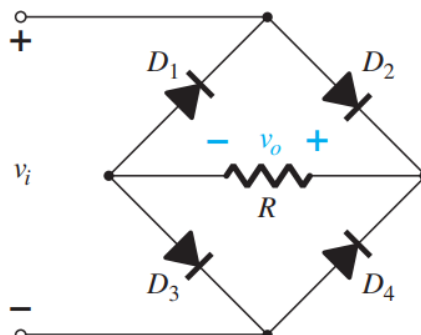
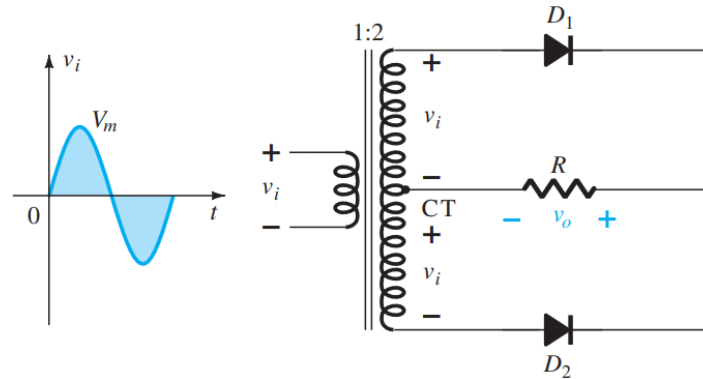

Figure 3: Full-wave bridge rectifier.
Figure 6: Center-tapped transformer full-wave rectifier.
The DC level obtained from a sinusoidal input can be improved by 100% using a process called full-wave rectification. The bridge rectifier is a circuit that converts an AC voltage to a DC voltage using both half cycles of the input AC voltage. The most familiar network for performing such a function is a bridge rectifier as shown in Fig. 3 with its four diodes in a bridge configuration. The AC input voltage is applied to the diagonally opposite ends of the bridge. The load resistance is connected between the other two ends of the bridge.
During the period $t = 0$ to $T/2$, that is, in the positive half-cycle, the polarity of the input is shown in Fig. 4. The resulting polarities across the ideal diodes are also shown in Fig. 4 to reveal that D_2 and D_3 are conducting, whereas D_1 and D_4 are in the “off” state. The net result is the configuration of Fig. 4, with its indicated current and polarity across the load resistance, R . Since the diodes are ideal, the load voltage is $v_o = v_i$, as shown in the same figure. The bridge rectifier circuit is shown in Fig. 3.
Over one full cycle, the input and output voltages will appear as shown in Fig. 6. The average value of the full-wave rectified voltage signal over a full period (T) is given by
A second popular full-wave rectifier is a center-tapped rectifier. It is a type of full-wave rectifier that uses two diodes connected to the secondary of a center-tapped transformer, as shown in Fig. 6. The input voltage is coupled through the transformer to the center-tapped secondary. Half of the total secondary voltage appears between the center tap and each end of the secondary winding as shown in Fig. 6 with only two diodes but requiring a center-tapped (CT) transformer to establish the input signal across each section of the secondary of the transformer.
12. Connect the circuit as shown in Figures 3 and 6 without any capacitors. Then repeat steps 3-11, but record data in Tables 2 and 3, respectively.
Table 2 Data Table for the Circuit of Figure 3
Table 3 Data Table for the Circuit of Figure 6
5. Why circuit in Fig. 6 is better than that in Fig. 3?